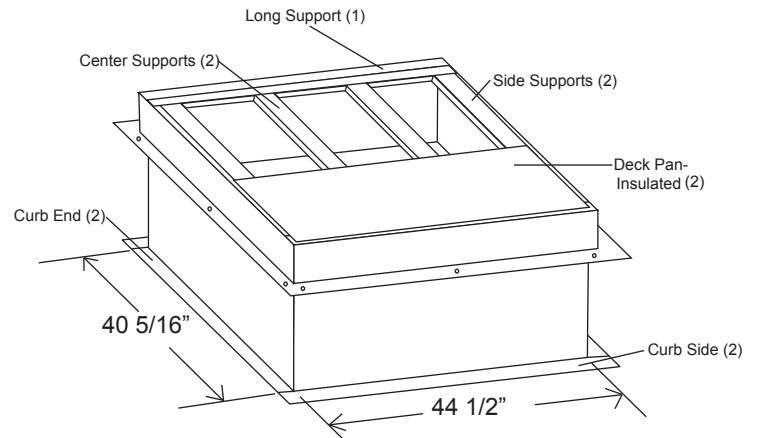

FIGURE 2
7. Install the long support on the side opposite of the deck pan. Figure 2 and 3.
8. Install the side supports on each end of the roof curb. Figures 2 and 3.
9. Install the center supports to frame the supply and return duct openings. See Figures 2 and 3.